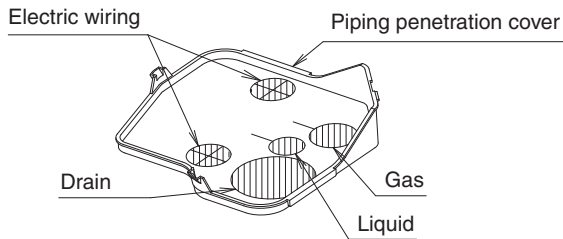

Fig.19
- In case of upward piping, remove the piping penetration cover, make holes for penetrating piping by cutting the cover with a cutter such as scissors. After having the piping go through the cover, attach the cover to the indoor unit. **(Refer to Fig. 19)**